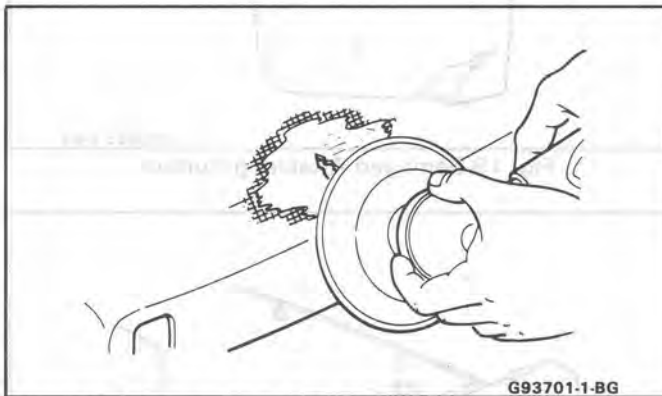

Fig. 12-Removing Paint Surrounding Damage
- a. Clean the repair area with a wax, grease and silicone-removing solvent applied with a water-dampened cloth. Wipe dry. With a random orbit sander fitted with a #180 grit disc, remove the paint film in and surrounding the area to be filled. The repair material should **not** overlap the painted surface (Fig. 12).